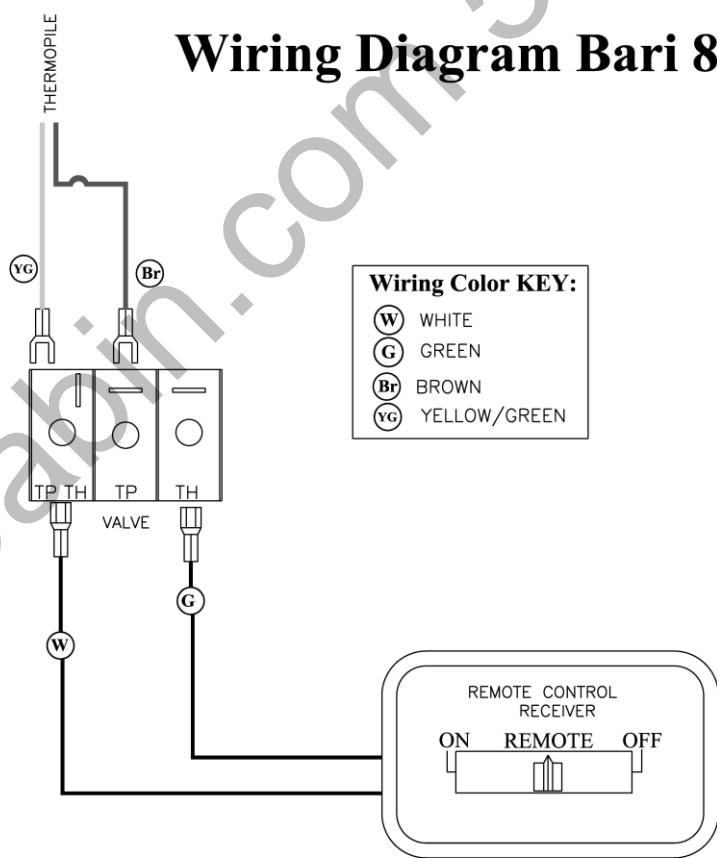
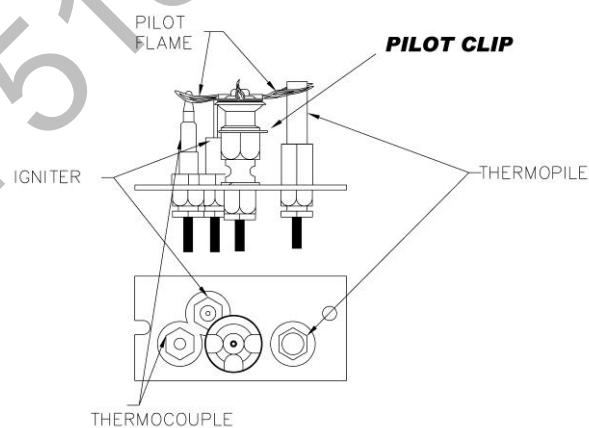

Figure 10: Bari 8180 Wiring Diagram
Figure 13: Pilot assembly
**CAUTION: LABEL ALL WIRES PRIOR TO DISCONNECTION WHEN SERVICING CONTROLS. WIRING ERRORS CAN CAUSE IMPROPER AND DANGEROUS OPERATION. VERIFY PROPER OPERATION AFTER SERVICING. (ATTENTION: AU MOMENT DE L'ENTRETIEN DES COMMANDES, ÉTIQUETEZ TOUS LES FILS AVANT LE DÉBRANCHEMENT. DES ERREURS DE CÂBLAGE PEUVENT ENTRAÎNER FONCTIONNEMENT INADEQUATE ET DANGEREUX.) THE PROPER LOCATION OF WIRE CONNECTIONS IS SHOWN IN FIGURE 10 BELOW.**
The pilot light is preset by the manufacturer and should not need adjustment. However, you should perform a periodic visual check of the pilot flame. Ensure the pilot light flame is large enough to engulf the thermopile and thermocouple located next to the pilot, but not so large as to create excessive noise or consume excessive gas (Refer to figure 13). If necessary, adjust the pilot flame by means of the pilot light adjustment screw located on the gas control valve (see figure 10). Open the valve door to access the pilot adjustment screw. Note that the pilot flame must engulf the thermopile so that the thermopile can generate sufficient milli-voltage (325 to 500-mv) to power the gas control valve. The flame on the pilot should look like Figure 13. Controlling the Bari by the remote or wall-mounted thermostat may become erratic, nonexistent, or the unit may go out, if the pilot flame is too small or misdirected away from the thermopile.
With the decorative logs out of the firebox. Briefly light the unit. Check to ensure a proper flame is burning from each burner port. The pilot flame must be large enough to engulf the thermopile and thermocouple as shown in *Figure 13*.